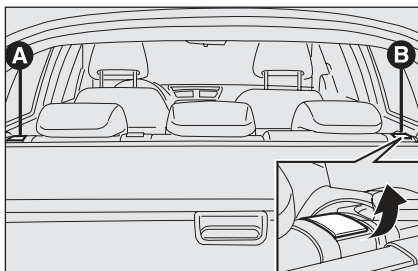

fig. 102
- ☐ lift handle **A** or **B**-fig. 102 to unlock respectively the left or right section of the backrest and then guide the backrest onto the cushion.
- ☐ lift handles **A** and **B**-fig. 102 to release the backrests and guide them onto the cushion.